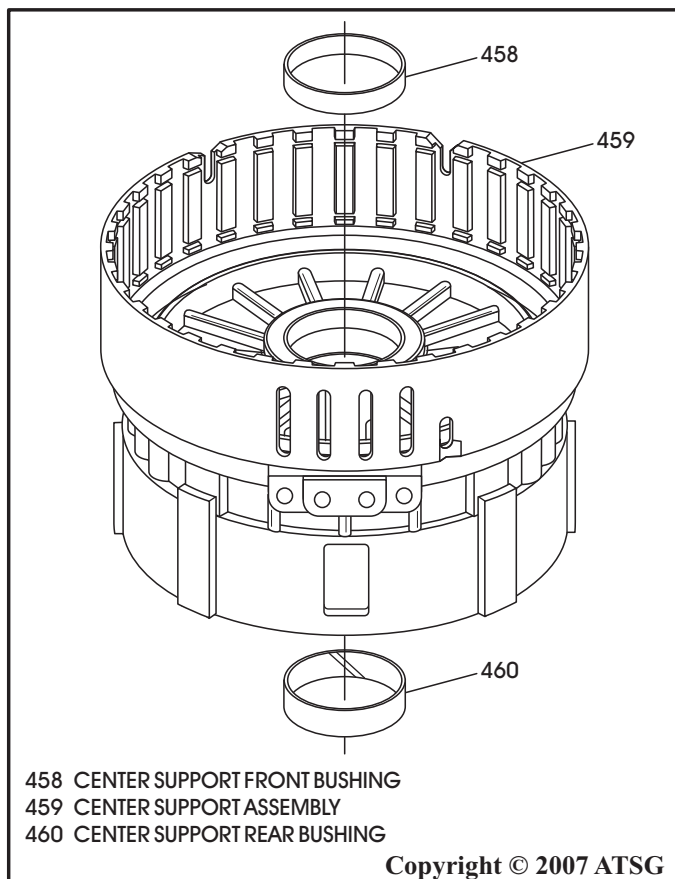

Figure 107
4. Replace center support bushings as necessary, as shown in Figure 107, using the proper size bushing drivers.